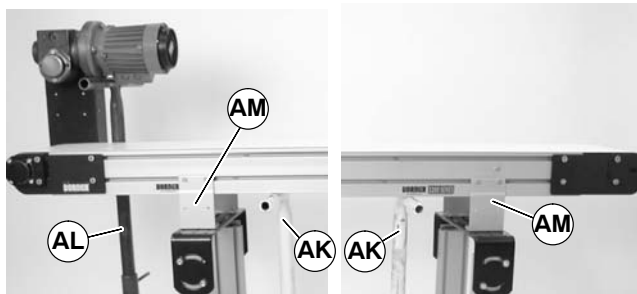

Figure 20
1. Place temporary support stands (AK of Figure 20) at both ends of the conveyor. Place an additional support stand under the drive motor (AL), if equipped. See **WARNING**.
2. Remove mounting brackets (AM of Figure 20) from one side of conveyor. (Reverse steps 3 & 4 of “Mounting Brackets” section on page 6).
1. Ensure temporary support stands (AK of Figure 20) are placed at both ends of the conveyor. Place an additional support stand under the drive motor (AL), if equipped. See WARNING.